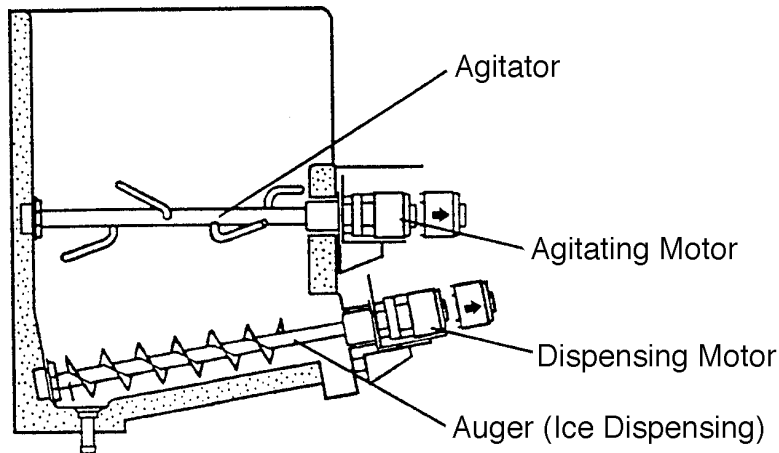

Fig. 13
- 2) Remove the thumbscrews, first from the vertical plane and then from the horizontal plane of the Motor Brackets. Move the Agitating Motor(s) and the Dispensing Motor toward you. Then remove the Agitator(s) and the Dispensing Auger. See Fig. 13.